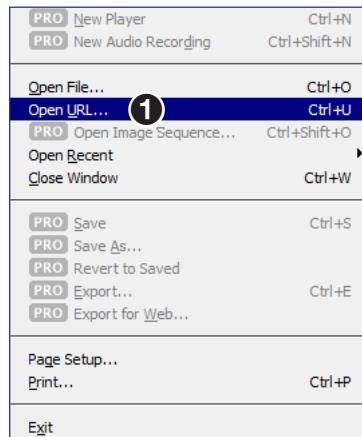

Figure 107. QuickTime Player Menu – Open URL
5. From the File menu, select **Open URL** (see figure 107, ①).